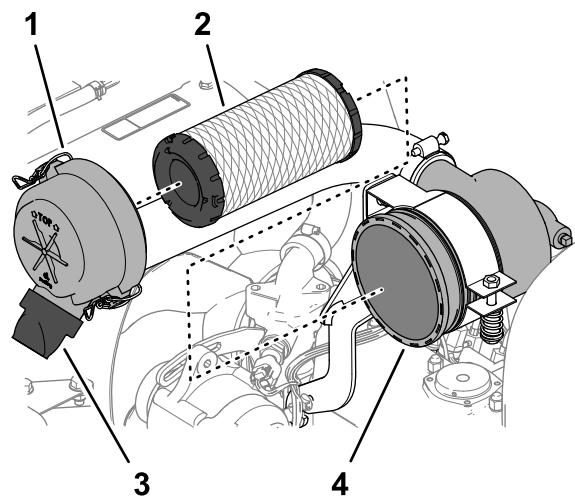

Figure 72
3. Release the latches that secure the air-cleaner cover to the air-cleaner body (Figure 72).
6. Remove the filter element (Figure 72).
7. Remove the rubber outlet valve (Figure 72) from the dirt ejection port of the air-cleaner cover.